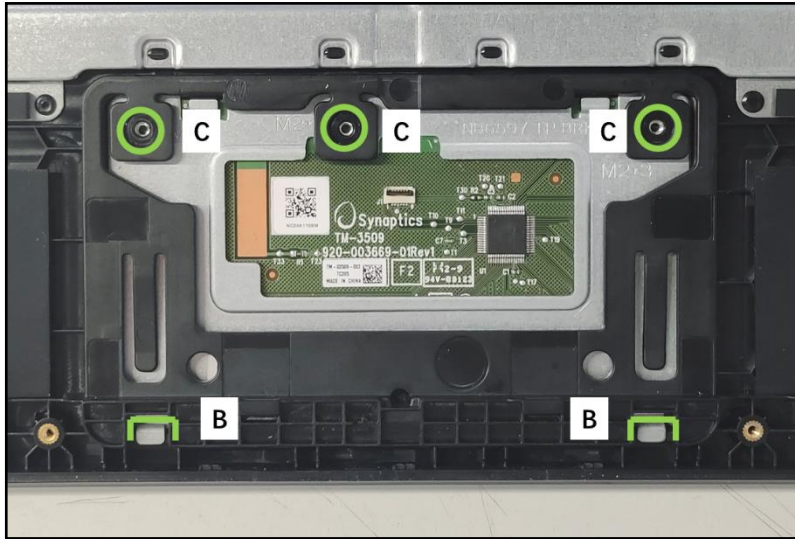

Figure 3-108. Replacing the Touchpad Module
1. Slide the touchpad module (A) into the bottom latches (B) until those are fully engaged (Figure 3-108).
2. Ensure that the touchpad module is properly aligned with the guide pins (C), push the touchpad module firmly onto its slot until it is fully seated in place (Figure 3-108).